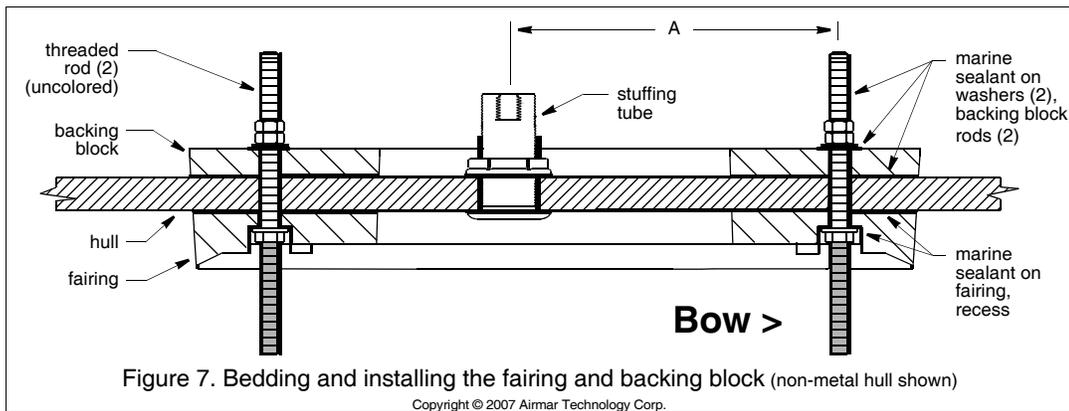

Figure 7. Bedding and installing the fairing and backing block (non-metal hull shown)
- To locate the hole for the *forward* threaded rod (nearest the bow), measure the distance between the cable exit and the forward hole in the transducer, center to center. (The rounded bottom is forward and the temperature sensor is aft.) **Being sure the fairing will be parallel to the centerline of the boat (keel)**, measure this distance A on hull and mark the hole (see Figure 7).
- Place the fairing against the hull. Push the *uncolored* end of the threaded rod through the fairing and the hull until the nut rests inside the recess in the fairing (see Figure 7). With a person stationed inside the vessel, slide the backing block onto the rod. Temporarily secure the rod with a stainless steel washer and nut.
- Apply a 2mm (1/16") thick layer of marine sealant: (see Figure 7)
4. Push the *uncolored* section of each threaded rod through the fairing, the hull, and the backing block until the washer rests inside the recess in the fairing (see Figure 7). With a person stationed inside the vessel, secure each rod with a washer (bedded side against the backing block) and double stainless steel nuts. Use a wrench to hold the lower nut while tightening the top nut against it.